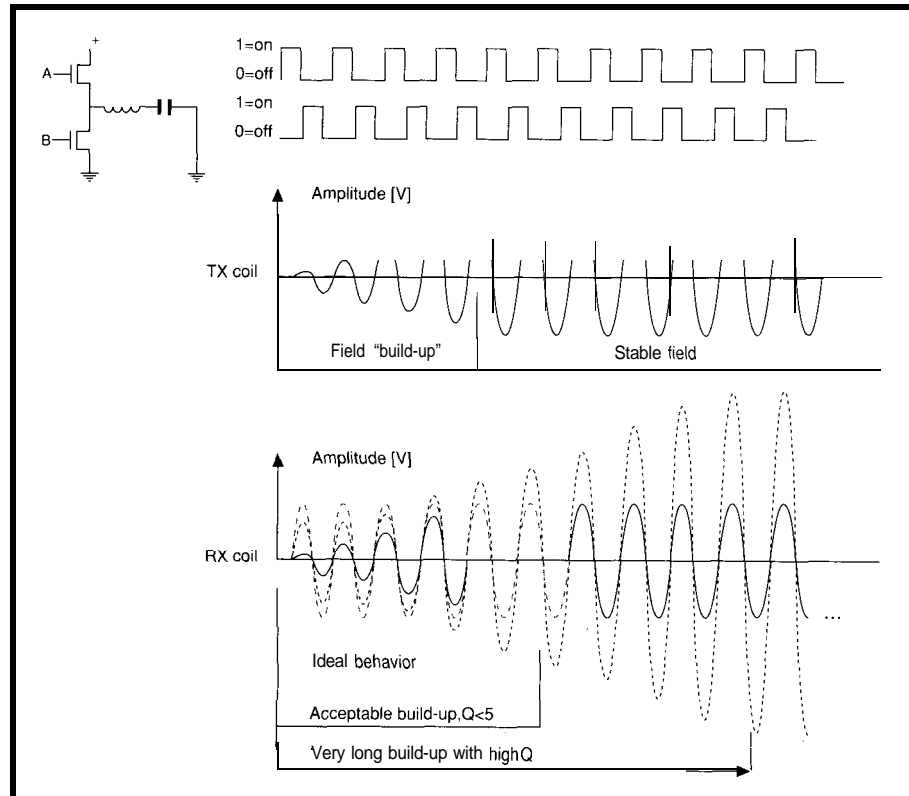

Figure 4— The effects of TX coil's Q on the field amplitude growth: ideally, it should be in a stable state from the first pulse (i.e., no build-up time).
- Keep the Q low to minimize build-up time and decay. This has the side effect of decreasing sensitivity (i.e., range), but will make the system much more reliable. In my experience, the small receive coil should have a Q that is less than five. See Figure 4.